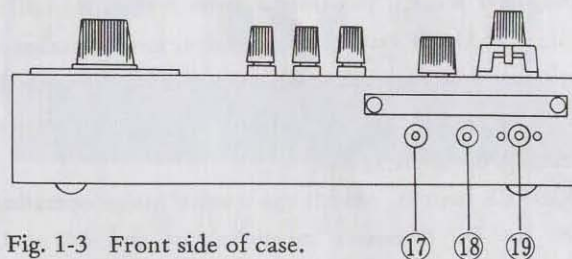

Fig. 1-3 Front side of case.
C. Front Side of Case, Fig. 1-3